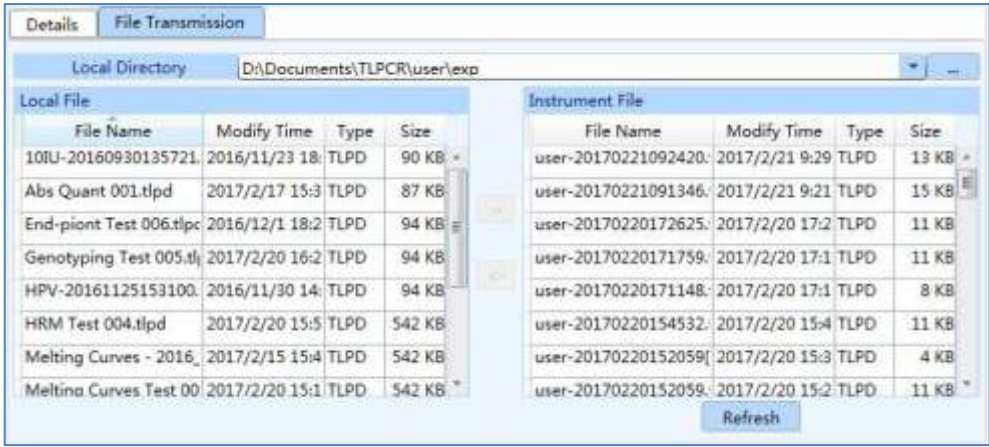

Figure D-3.2d Instrument Management interface - File Transmission tab
- ▶ **File Transmission** tab: to transmit the file between the control computer and the connected Gentier instrument, as shown in figure D-3.2d.